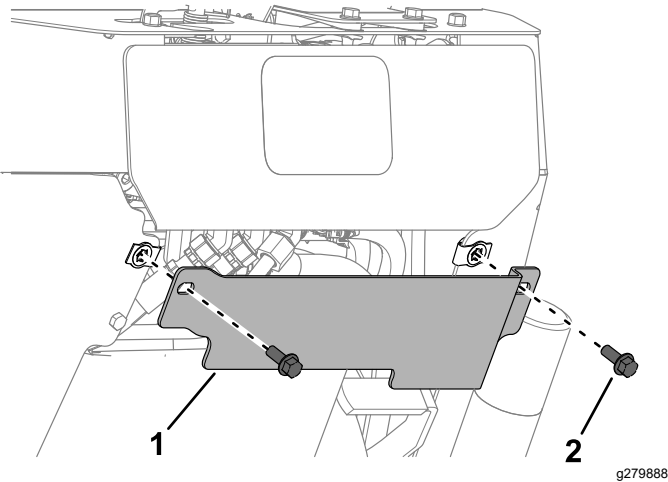

Figure 10
1. Remove the rear guard (Figure 10).
2. For TRX-250 and TRX-300, install the rear guard (Figure 10).